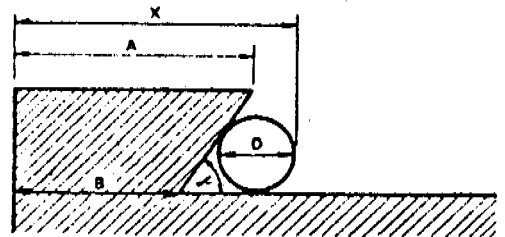

Figura 3
**FÓRMULAS PARA MEDICIONES CON UN SOLO RODILLO ( Figura 3 )**